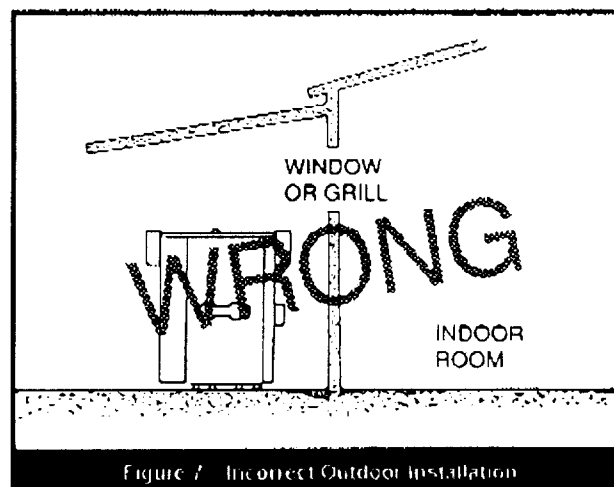

Figure 7. Incorrect Outdoor Installation
2. Do not place the heater in an enclosure or wall recess. Avoid locations where wind deflection off structures might cause down draft. When such wind conditions are possible, place the heater at least three (3) feet from the structures.
3. Never install the heater under any kind of roof overhang. Do not place the heater below or adjacent to any doors, windows, louvers, grills, etc. which connect in any way with an inhabited area of a building. This includes other structures such as garages or utility rooms (see Figure 7).